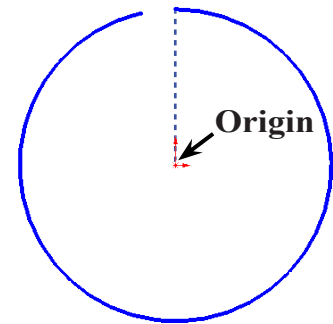

Fig. 2
Step 3. Click **Centerpoint Arc**  (S) in the Arc flyout  on the Sketch toolbar.
Step 4. Sketch a slightly open arc starting from the Origin , **Fig. 2**. To sketch the arc, click the Origin to place the center of the arc. Start the first arc endpoint directly above the Origin, then swing the arc to the right around counterclockwise. Click to place the second endpoint leaving a gap between endpoints.